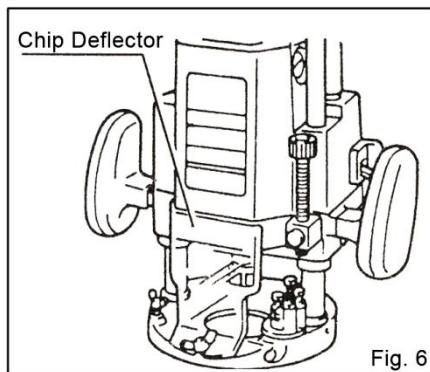

Fig. 6
- ◎ Before operation, always make sure that the chip deflector is installed properly. (**Fig. 6**)